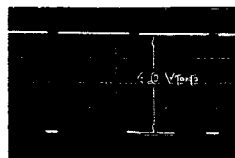

Fig. 2-2
- (1) Connect an oscilloscope to TP-2 on SG BOARD BASE (75  $\Omega$  termination).
- (2) Adjust R53 (HD LEVEL) so that a voltage of 4 Vp-p  $\pm$  0.2 V is obtained as shown in Fig. 2-2.